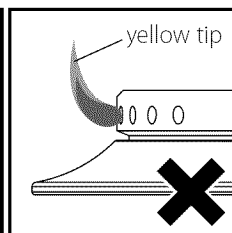

figure 4
- Loosen the venturi securing screw. Move the venturi towards the injector until the flame begins to 'yellow tip' (see fig. 4).